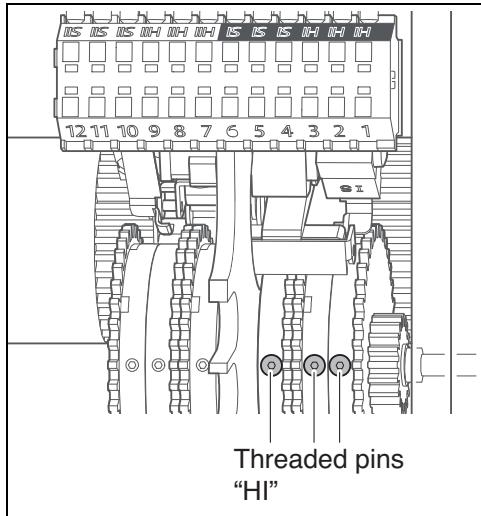

Fig. 13
- ▶ Tighten the 3 threaded pins in the adjusting rings of limit switch "HI" using a torque spanner and a tightening torque of 1.33 lbf-in (0.15 Nm) (see Fig. 13). A suitable torque spanner is available as an optional Lock accessory.